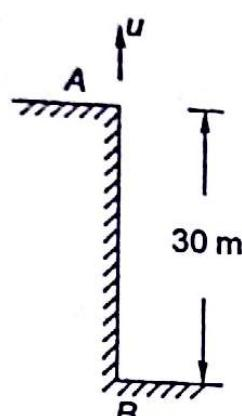

Fig. 10.8
10.4 Determine the vertical velocity u with which a ball must be thrown upwards at A in order that the time for the flight to return to the bottom of the cliff is 3 seconds as shown in Fig. 10.8.